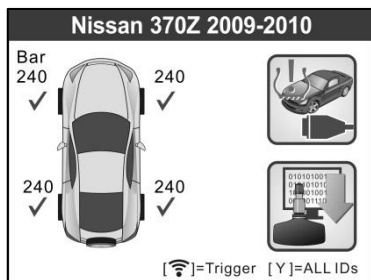

Figure 4-15
- 2) An activation screen with the previously activated sensor information will show up (Figure 4-15). Use the **UP/DOWN** or **LEFT/RIGHT** scroll button to select the desired wheel, and press the **TEST** button to reactivate the sensor, or press the **Y** button to view all detailed sensor data (Figure 4-16).